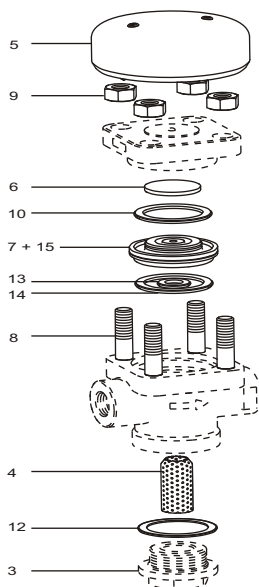

Figure 4: Parts available as spares (Heavy Outline) for FMTD76-M Screwed and socket weld
1. Screwed and socket weld connections. (Figure 4)
2. Accesses to the strainer screen can be obtained by removing strainer cap (3).
3. Remove the strainer screen (4).
4. Fit a new or cleaned strainer screen into the recess in the cap (3).
5. A new gasket (12) should be fitted and the cap (3) screwed into the body and tightened to the recommended torque.
Screwed and socket weld connections (Figure 4).
9. Available Spares: [Refer figure 4]